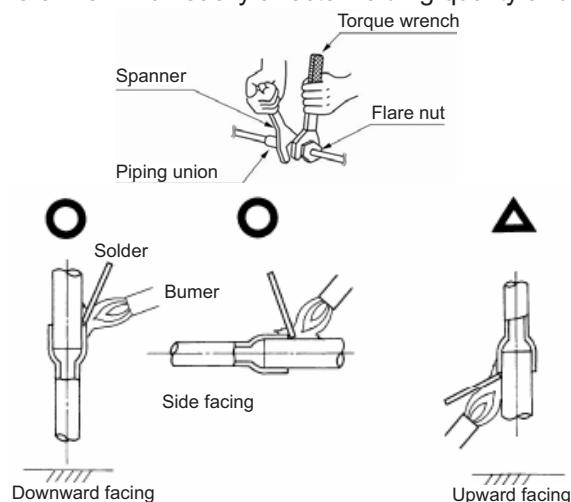

Figure 3-1-3
- ◆ Brazing port shall be downward and horizontal when brazing the pipeline. Try to avoid the upward brazing as shown in figure 3-1-3 which easily affects welding quality and causes leakage.